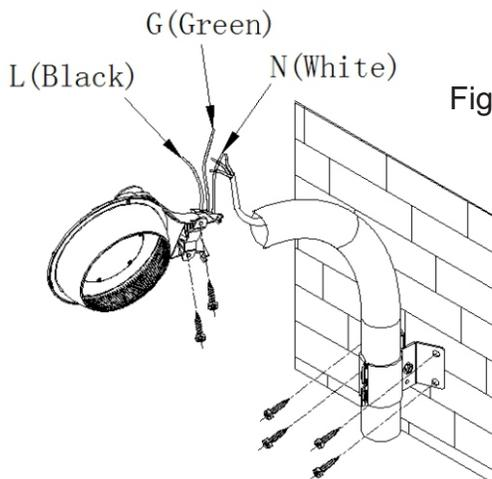

Fig.5
4. Put one end of the tube into the U-slot, and then fix the tube with two hex socket screws. Please make sure that the tube will not rotate. (see Fig.5)
5. Fixed clamp on the pipe in a right position and make sure that the pipe will not rotate. Install the light fixture on the wall with four screws. (see Fig.5)